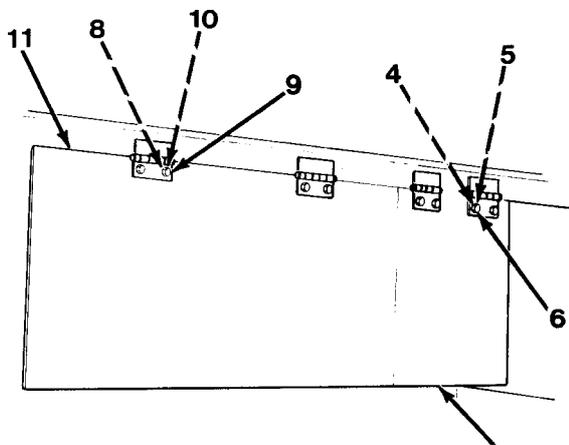

Figure 14-2
4. Install hand pump (14), three cap screws (13) and nuts (12) to secure hand pump (14) to inside of tool box (17).
5. Install tool box cover (11, Figure 14-2).
6. Install four cap screws (10), washers (9) and nuts (8).
7. Install battery cover (7).
8. Install four cap screws (6), washers (5) and nuts (4).